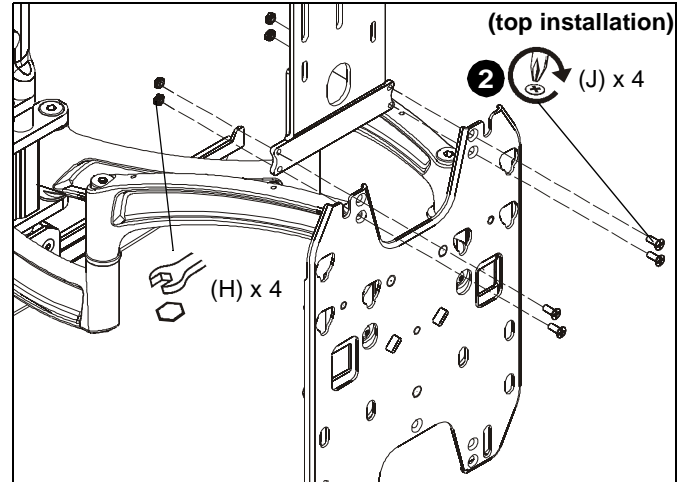
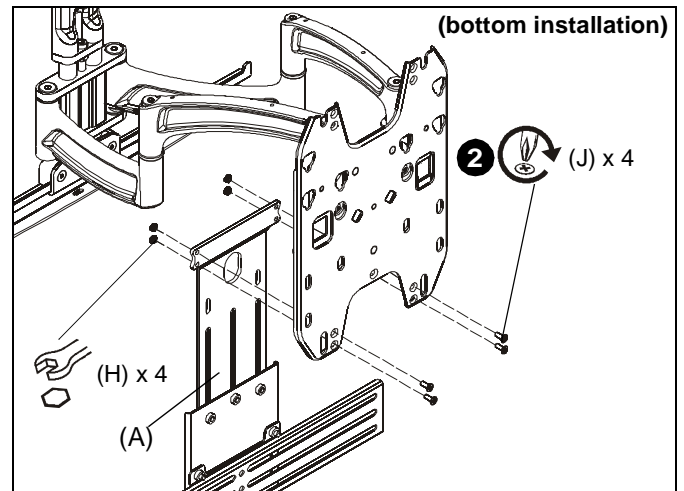

Figure 7
Figure 8
2. Use four #10-24 x 1/2" Phillips flat head cap screws (J) and four #10-24 lock nuts (H) to connect attachment bracket (A) to faceplate. (See Figure 7) and (See Figure 8)